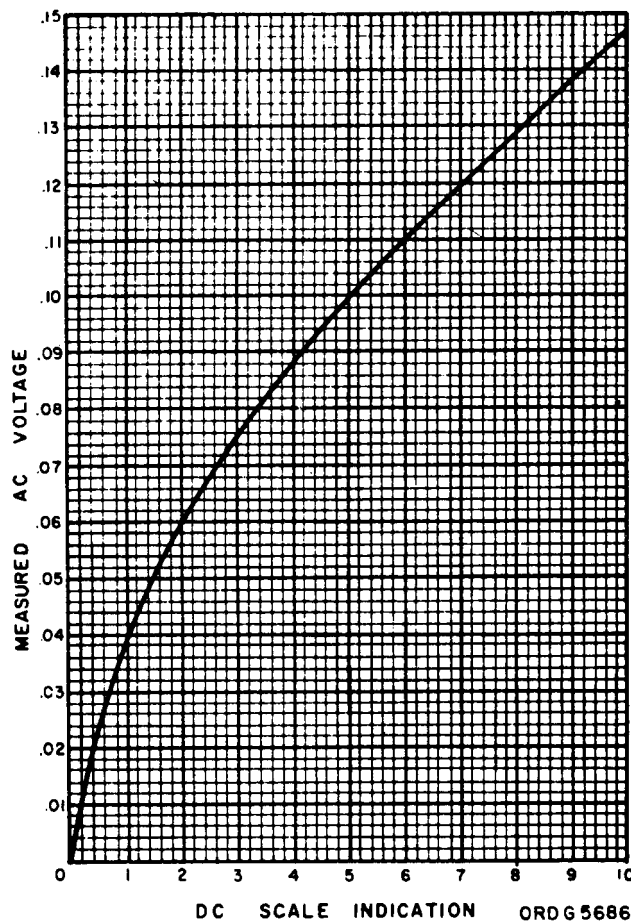

Figure 10. Measured ac voltage vs dc scale indication in the digital mode, with a digit wheel setting of 1 0 0, and in the 1 volt ac range
- Read from the curve of figure 10 the measured ac voltage value which corresponds to the obtained dc scale indication value.
e. Read from the appropriate curve in figure 10 or 11 the measured ac voltage value which corresponds to the obtained dc indication value.